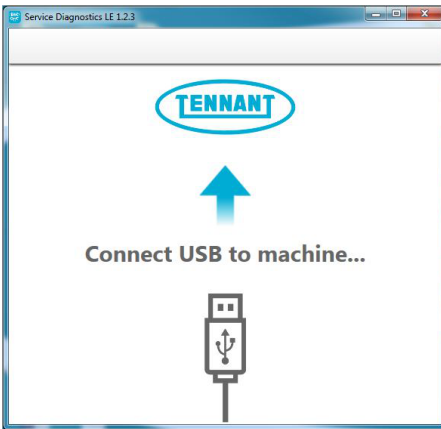

Fig. 40
1. Start the Service Software Application program. After start up, the following screen will appear (Figure 40).